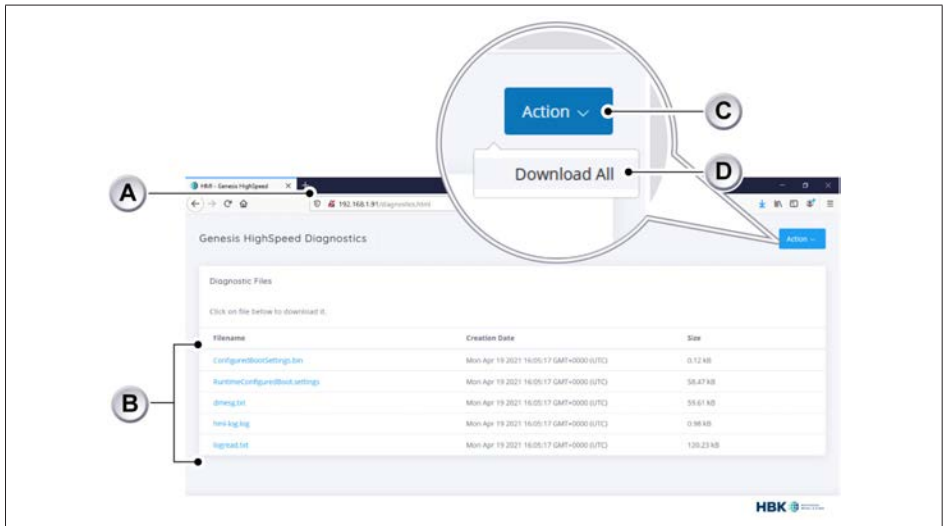

Fig. D.82 Diagnostics web page
2. Enter the address of the equipment (IP address or network name) in the browser address bar (A). The following web page will be shown (see Fig. D.82).
3. The diagnostic files (B) of the equipment will be listed on the web page (see Fig. D.82). It is now possible to click on each file individually to download, or click the **Action** button (C) to download all diagnostic files at once (D).